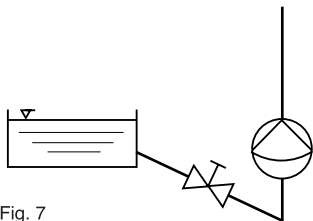

Fig. 7
- ▶ If necessary have the intake lines falling to prevent sucking in air bubbles (Fig.7)